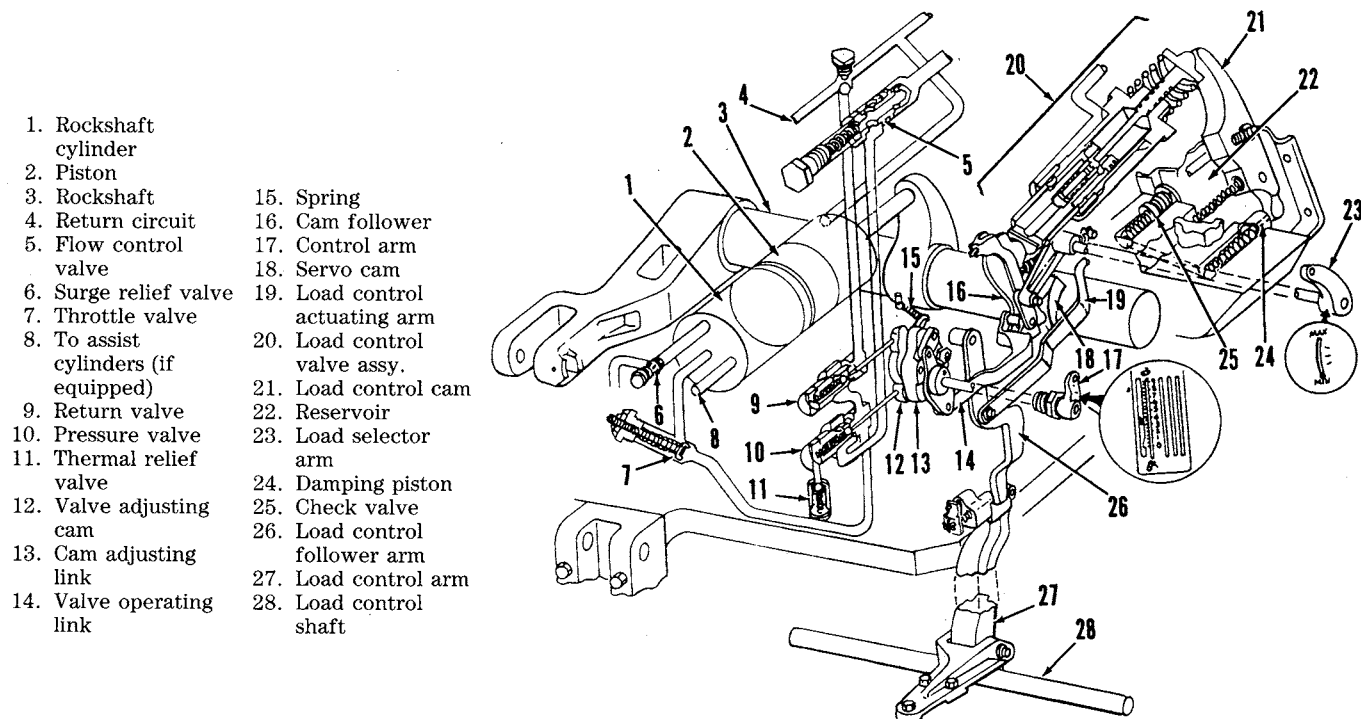

Fig. 240—Schematic view of rockshaft assembly used on Models 4050, 4250 and 4450. A mechanical load sensing draft control system is used on these models.
Refer to appropriate Fig. 240 or 240A for a schematic view of rockshaft assembly. To raise rockshaft (3), the console lever is moved rearward. The position control linkage (17) rotates the cam (12) which opens pressure valve (10). Pressure oil is routed to the rockshaft cylinder (1) and lift-assist cylinders (if so equipped). As rockshaft rotates, the shaft servo cam (18) and linkage moves the valve operating cam (12) and pressure valve (10) back to neutral position to hold rockshaft at desired height.
On Models 4050, 4250 and 4450, mechanical sensing of draft load operates as follows: As draft load pulls back on ends of load control shaft (28—Fig. 240), the control shaft flexes and moves the top of load control arm (27) rearward. This linkage movement operates load control cam (21) which pushes on load control valve (20). The control valve then actuates the draft control linkage (14), which rotates operating cam (12) and opens pressure valve (10). Pressure
230. The following are symptoms which may occur during operation of hydraulic lift system and their possible causes. Be sure to check main hydraulic system as outlined in paragraph 203 for proper operation before assuming rockshaft hydraulic system is faulty. Refer to appropriate Fig. 240 or 240A for identification of parts.
Fig. 240A—Schematic view of rockshaft assembly used on Models 4650 and 4850. A hydraulic load sensing system is used on these models. Refer to Fig. 240 legend except for the following: